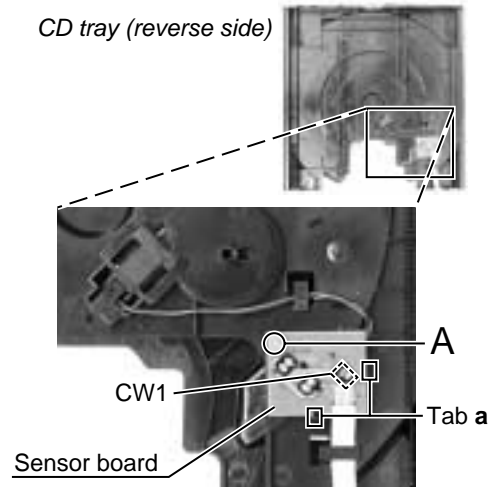

Fig.5
■ Removing the sensor board (See Fig.5)